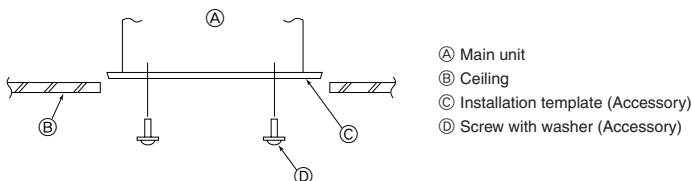

Fig. 4-7
4.6. Confirming the position of main unit and tightening the suspension bolts (Fig. 4-7)